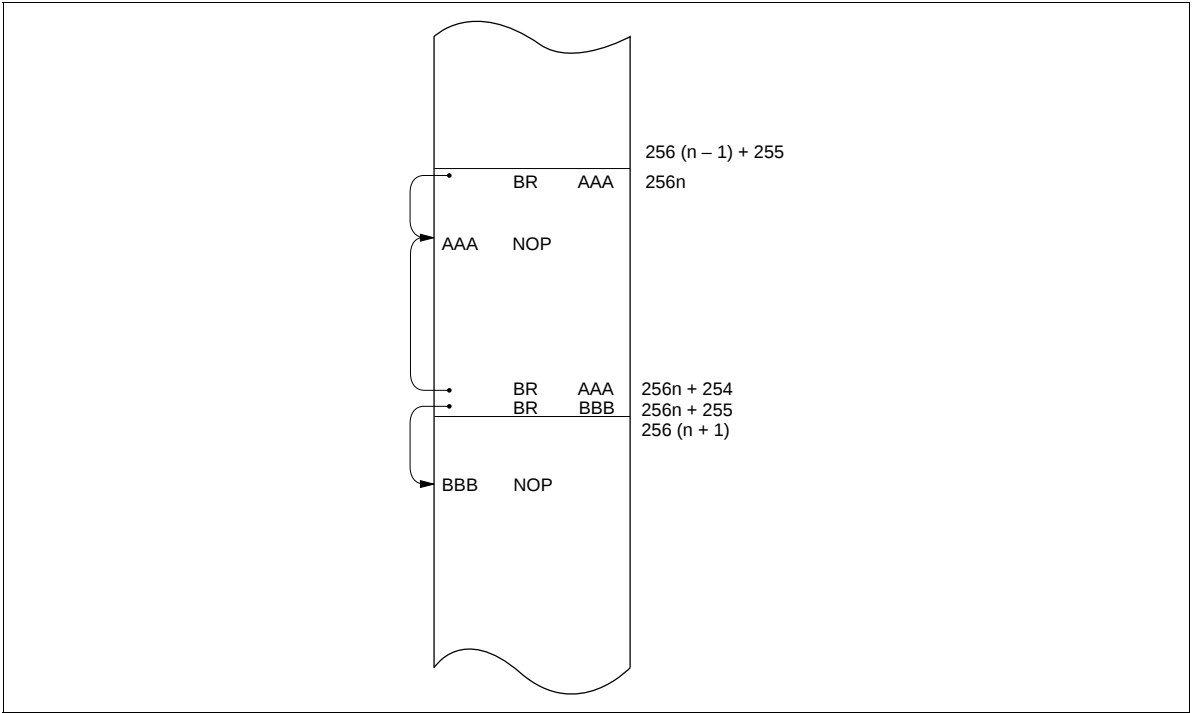

Figure 103 Branching when the Branch Destination is on a Page Boundary
**Current Page Addressing Mode:** The MCU has 64 pages of ROM with 256 words per page. A program can branch to any address in the current page by executing the BR instruction. This instruction replaces the eight low-order bits of the program counter (PC7–PC0) with eight-bit immediate data. If the BR instruction is on a page boundary (address 256n + 255), executing that instruction transfers the PC contents to the next physical page, as shown in figure 103. This means that the execution of the BR instruction on a page boundary will make the program branch to the next page.